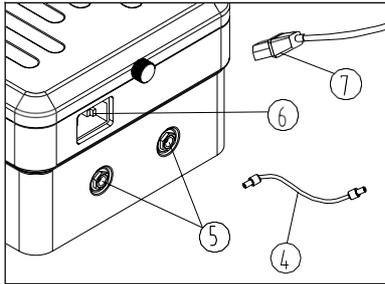

Fig.14
(3) When the box is lack of power, it has to be charged. When it is charging, switch needs to be at “I”(ON) position; at this moment, light indicator ⑩ color is “orange”, when power is full, light indicator ⑩ becomes “green”, at the same time, light bar indicator ① is all lighting. (The last grid color is “red”, the other seven grids color is “green”). (See Fig.14, 15)